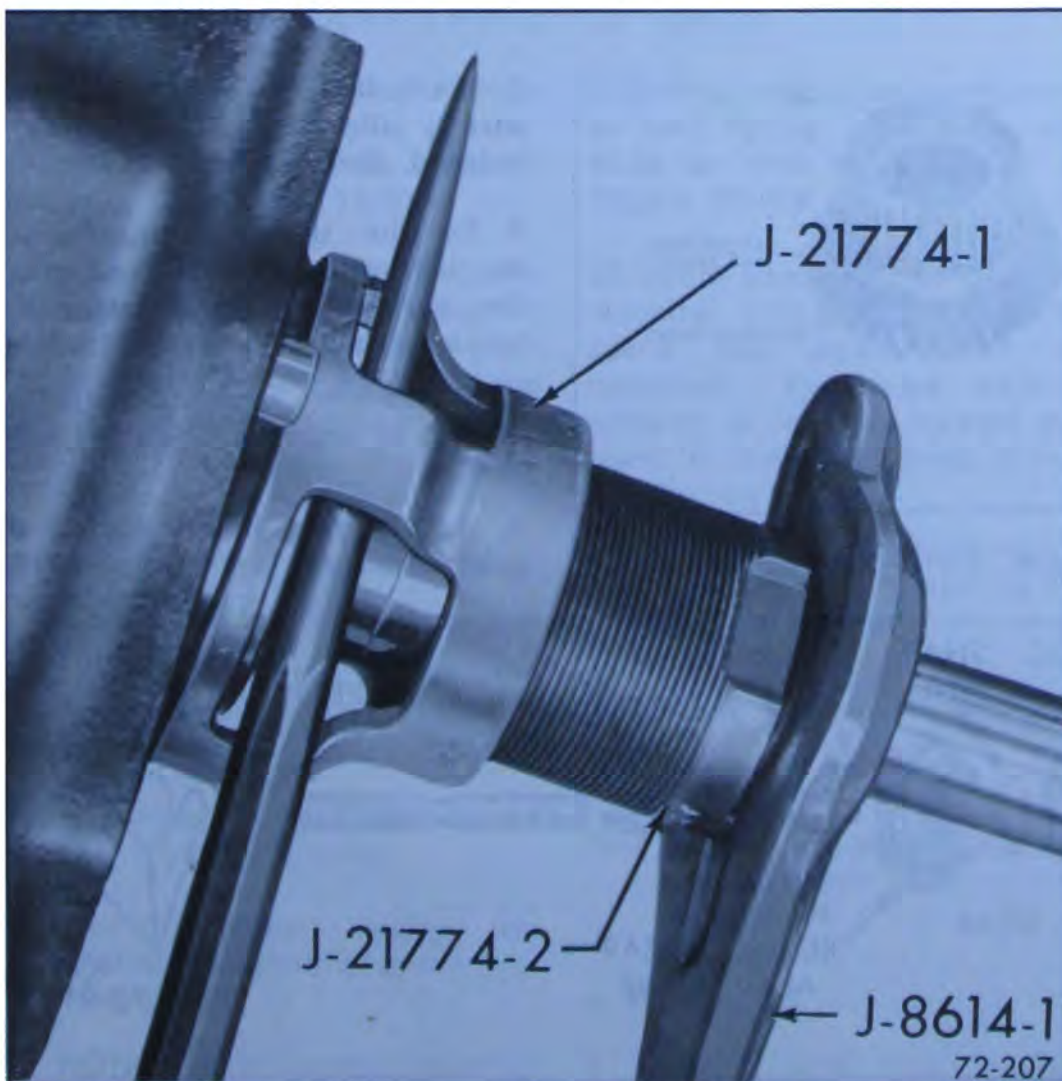

Figure 72-207—Removing Rear Bearing
5. Remove rear bearing as follows: See Figure 72-207.